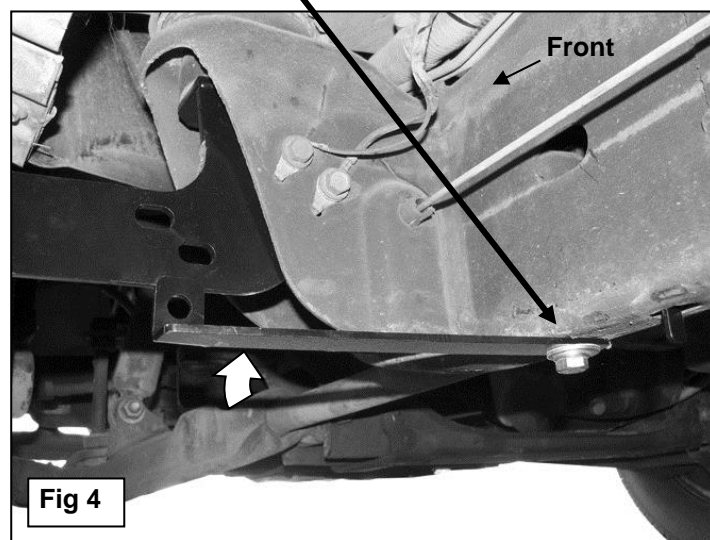

Fig 4
Note that the Front Support Bracket will not reach up to the Mounting Bracket, (**Figures 3 & 4**). Tighten the Support Bracket to the Nut Plate in the frame. Carefully push up on the Support Bracket until it reaches the inside hole in the Mounting Bracket, (**Figure 4**). Bolt the Support Bracket to the hole in the Mounting Bracket with (1) 10mm x 30mm Hex Bolt, (2) 10mm Flat Washers, (1) 10mm Lock Washer and (1) 10mm Hex Nut, (**Figure 3**). Do not tighten hardware at this time.